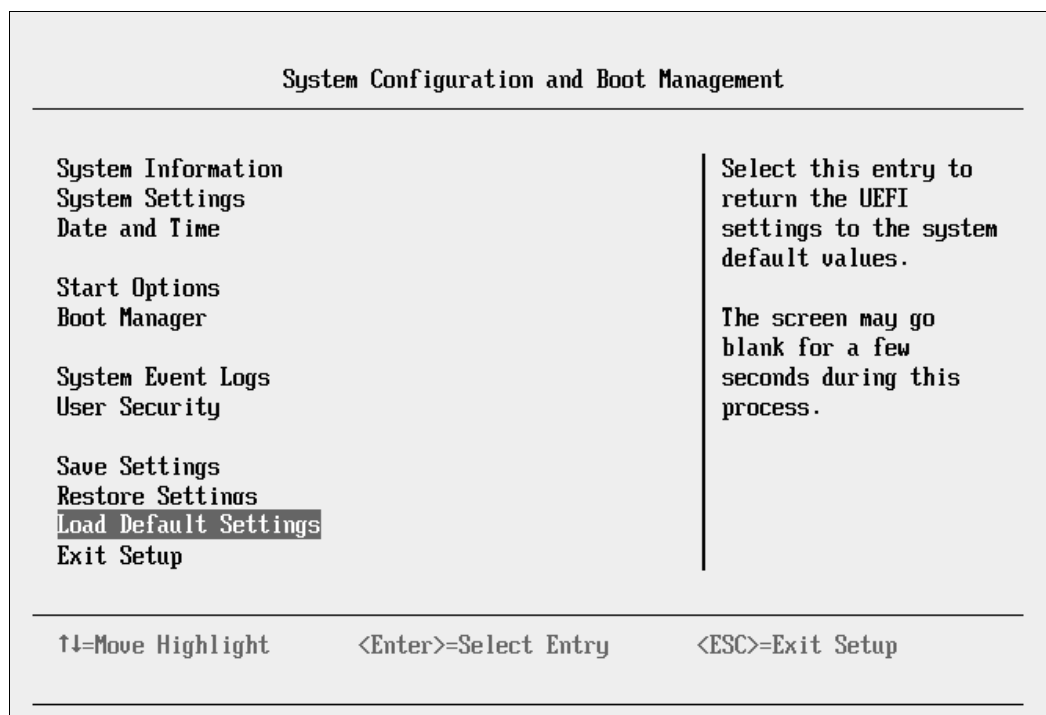

Figure 9-1 Load Default Settings on the System Configuration and Boot Management panel
3. In the System Configuration and Boot Management panel (Figure 9-1), highlight **Load Default Settings**, and press Enter.
1. In the System Configuration and Boot Management panel (Figure 9-1), select **System Settings**, and then press Enter.